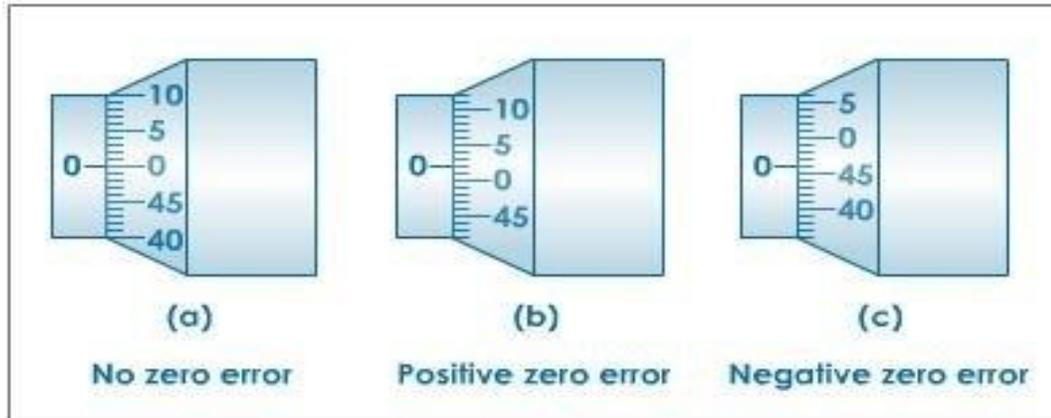

Fig.1
Screw Gauge is a mechanical tool that facilitates measuring the diameter or radius or thickness of a thin wire or thickness of a thin metal sheet with utmost accuracy. Figure 1 shows the schematic of the Screw Gauge. This tool consists mainly of a U shaped frame and a spindle (or screw) attached to the thimble. There are two scales known as Pitch Scale which is the main scale and is engraved on the barrel with vertical lines. Another one is the Circular Scale which is engraved horizontally on the thimble. Pitch scale measures the distance in millimetre (mm) travelled by the spindle per revolution. One revolution by the circular scale is equal to half of the millimetre of displacement of the screw is called a micrometre screw gauge. Micrometre gauges are more accurate and precise as compared to the Vernier Caliper scale.
- (iii) **Zero error and correction:** When the opposite studs on the frame are brought into contact, if the zero of the head scale coincides with the circular scale axis, there is no zero error (See Fig. 1 (a)).
If the zero of the circular scale is behind the zero of the pitch scale, the zero error is positive (See Fig. 1 (b)).
On the other hand, If the zero of the circular scale is ahead of the zero of main scale the zero error is negative (See Fig. 1 (c)).